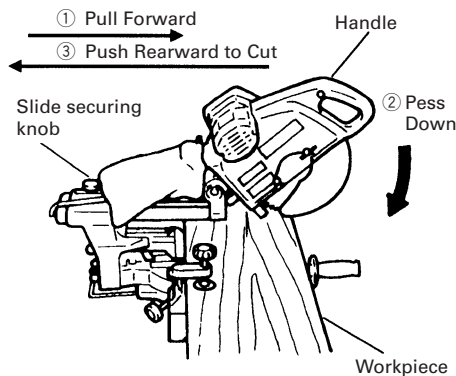

Fig. 23
- (1) Workpieces up to 3-11/32" (85mm) high and 12-9/32" (312mm) wide: Loosen the slide securing knob, grip the handle and slide the saw blade forward. Then press down on the handle and slide the saw blade back to cut the workpiece as indicated in Fig. 23. This facilitates cutting of workpieces of up to 3-11/32" (85mm) in height and 12-9/32" (312mm) in width.
- (2) Workpieces up to 3-35/64" (90mm) high and 11-39/64" (295mm) wide: Workpieces of up to 3-35/64" (90mm) in height and up to 11-39/64" (295mm) in width can be cut in the same manner as described in paragraph 6-(1) above.
- * For slide cutting, follow the procedures indicated above in Fig. 23. Forward slide cutting (toward the operator) is very dangerous because the saw blade could kick upward from the workpiece. Therefore, always slide the handle away from the operator.